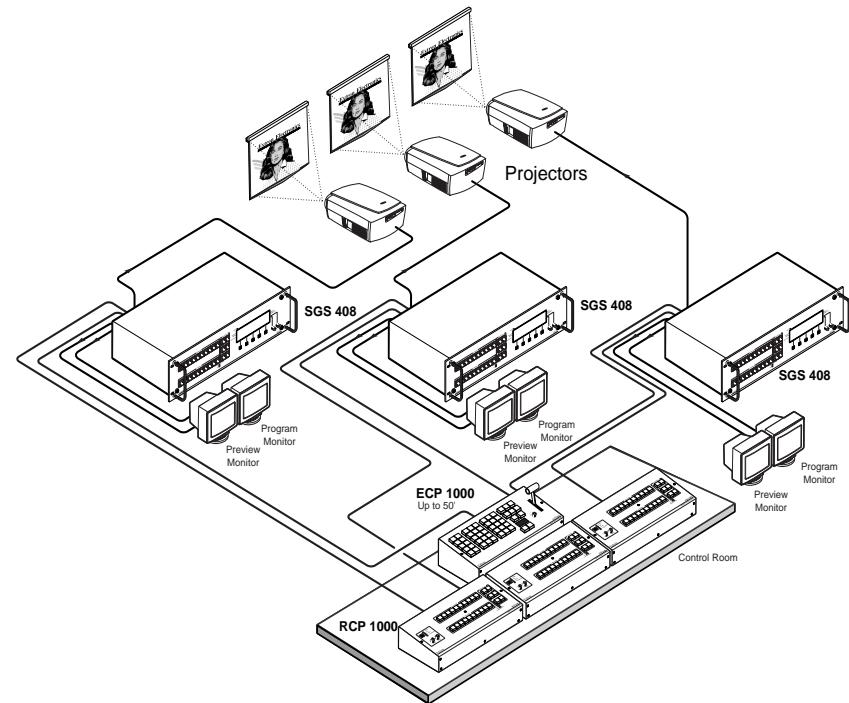

Figure 2-2 — SGS 408 and ECP 1000 application
- 3 For each SGS 408 to which the ECP 1000 will be connected, attach an ECP comm cable (provided with the SGS 408) between an SGS connector on the ECP 1000 and the RS-232 connector on the SGS 408. Figure 2-2 shows a typical application.